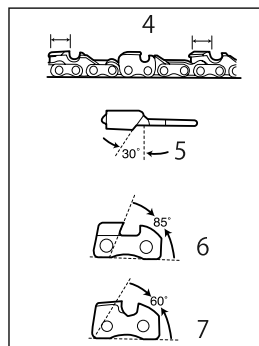

Figure 32
3. Depth gauge standard. Make sure every cutter has the same length and edge angles (Figure 32).